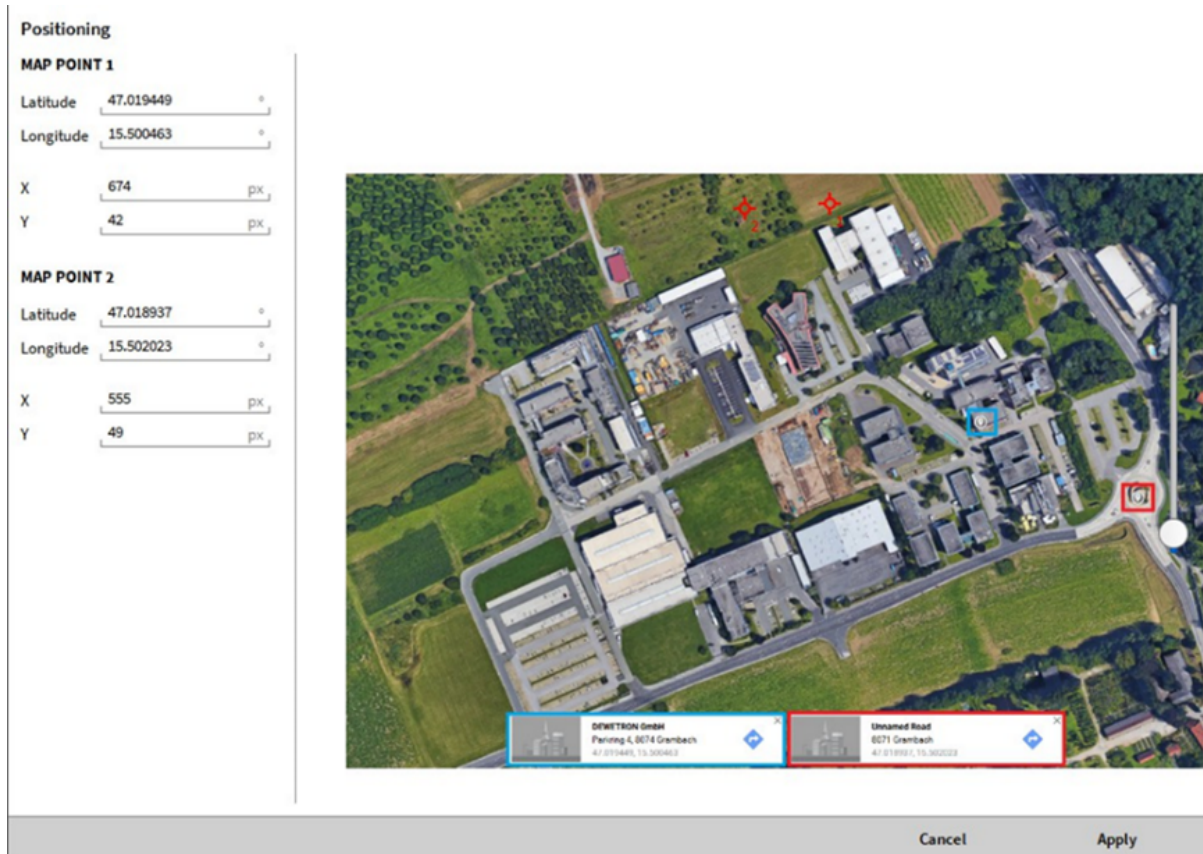

Fig. 8.88: Image positioning dialog
Two GPS coordinates within the loaded image must be known to position the image correctly. In Fig. 8.88, the two points and their corresponding coordinates are marked with red and blue. The procedure to position the image is the following:
- Two red cursors are generated by the Positioning dialog. In Fig. 8.88, they can be found at the top of the image. These cursors must be put on the known coordinates.
- *Latitude* and *Longitude* of *MAP POINT 1* must be entered for the known coordinates the first red cursor is placed on. In Fig. 8.88, this is the GPS coordinate marked with blue
- *Latitude* and *Longitude* of *MAP POINT 2* must be entered for the known coordinates the second red cursor is placed on. In Fig. 8.88, this is the GPS coordinate marked with red